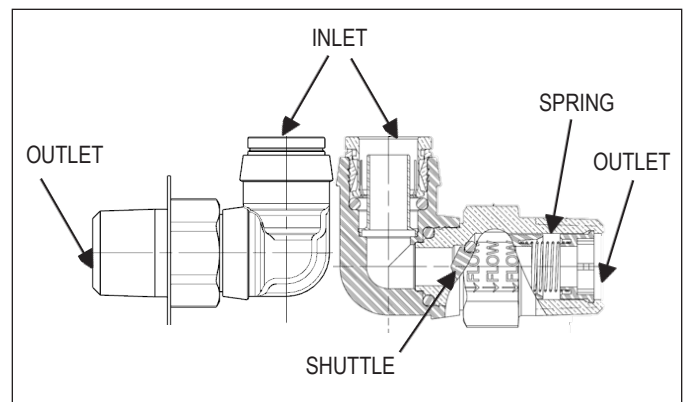

FIGURE 3 - ANGLED SC-3 SINGLE CHECK VALVE (EXTERIOR/CROSS-SECTIONAL VIEWS)
2. Angled (shuttle-type) single check valve (See Figure 3).